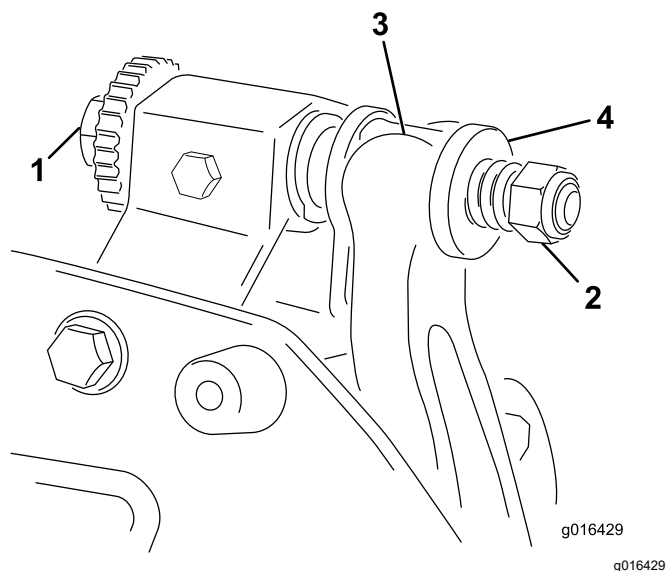

Figure 13
1. Turn the bedbar adjusting screw, counterclockwise, to back the bedknife away from the reel (Figure 13).
2. Back out the spring-tension nut until the washer is no longer tensioned against the bedbar (Figure 13).
- 1. Install the bedbar/bedknife assembly, positioning the mounting ears between the washers and the bedbar-adjusting screw (Figure 13).